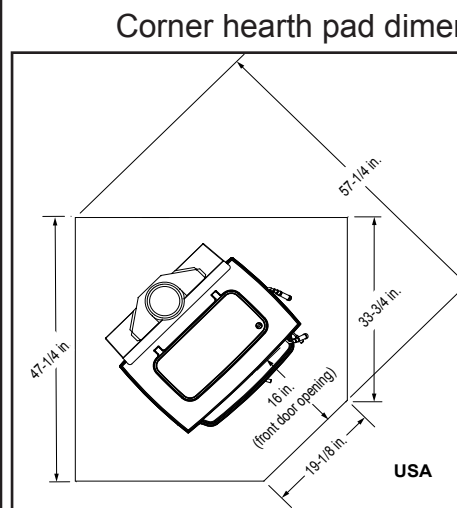

Figure 8.4
***EXCEPTION:** Non-combustible floor protections must extend beneath the flue pipe when installed with horizontal venting and extend 2 inches (51mm) beyond each side. **See Figure 8.4**